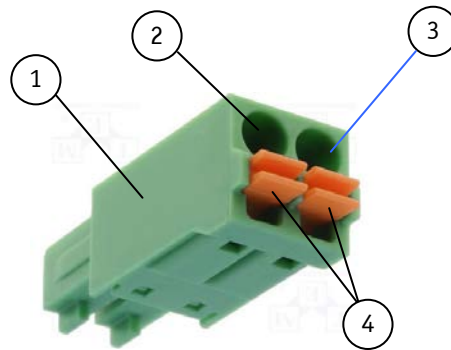
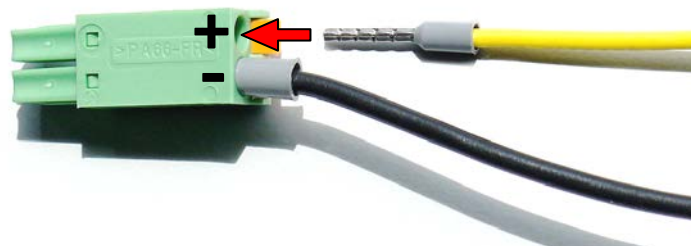

Fig. 17: Phoenix power plug terminal
Fig. 18: Cabling the Phoenix power plug (shown with optional ferrules)
3. The power connector is equipped with "push-in" spring clamps. Insert the wires into the corresponding clamp of the Phoenix plug terminal. Make sure that you have the right polarity of the connection (refer to Fig. 6, Fig. 17, Fig. 18).
4. For releasing/removing the cable from the connector, press in the orange release button using a screw driver and pull out the cable (Fig. 17, pos. 4)
The DC input connector (Fig. 4 and Fig. 6, marked X101) is located on the front side of the KBox A-201/A-202. The KBox A-201/A-202 will be connected to a DC main power supply via the supplied Phoenix power plug terminal (see Fig. 17) and corresponding power wires (not included).
The wires used for power connections must be clearly marked (+/-) to ensure that they will be proper connected to the DC IN connector of the KBox A-201/A-202 and to the main power source, corresponding to signals marked. Refer to Fig. 6 and Fig. 17. In addition, the cables must have some form of support so as to minimize the strain on the unit's connectors.